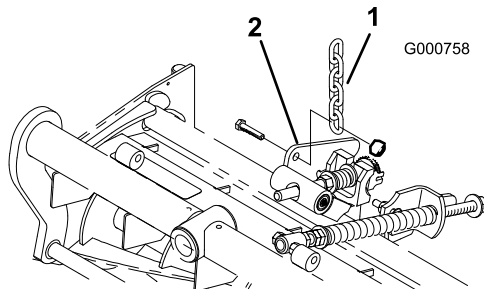

Figure 6
12. Remove nut securing turf compensation spring mounting bracket to cutting unit stabilizer ear (Figure 6). Insert tipper chain onto capscrew and secure with nut removed.